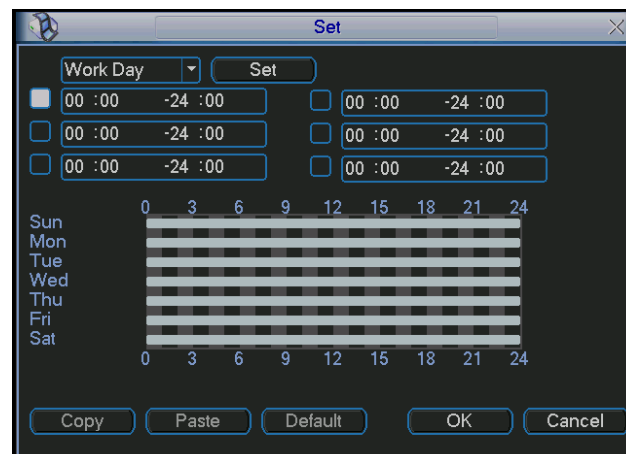
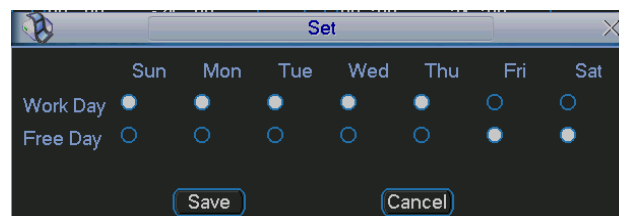

Figure 4-29
Figure 4-30
- Period: Click set button to generate the user interface illustrated in Figure 4-29. Here you can set for business day and non-business day.
- Click the set button in Figure 4-29 to generate the Set up screen dialog illustrated in Figure 4-30. Here you can set your own setup for business day and non-business day.